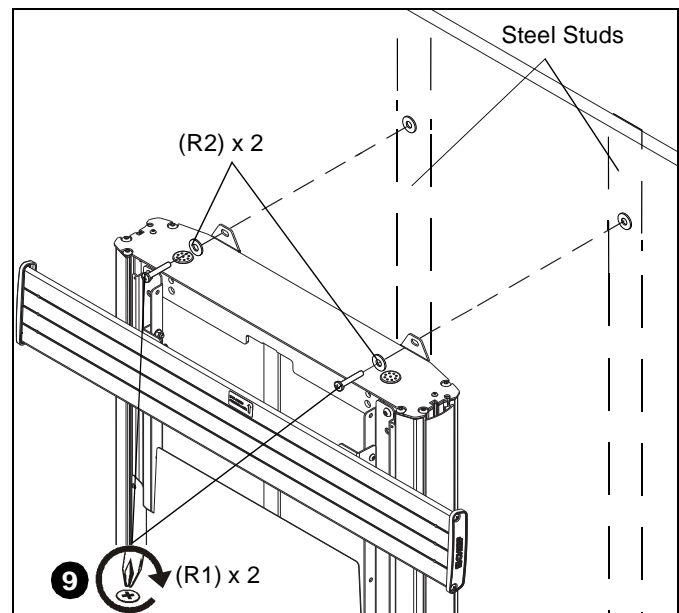

Figure 7
7. Place mount over anchors and align mounting holes on mount with holes in anchors. (See Figure 7)
9. Insert two 1/4-20 x 1-3/4" Phillips pan head screws (R1) through two 1/4" washers (R2), corresponding mounting holes on mount and into anchors (R3) and tighten until flush against mount. DO NOT overtighten! (See Figure 7)